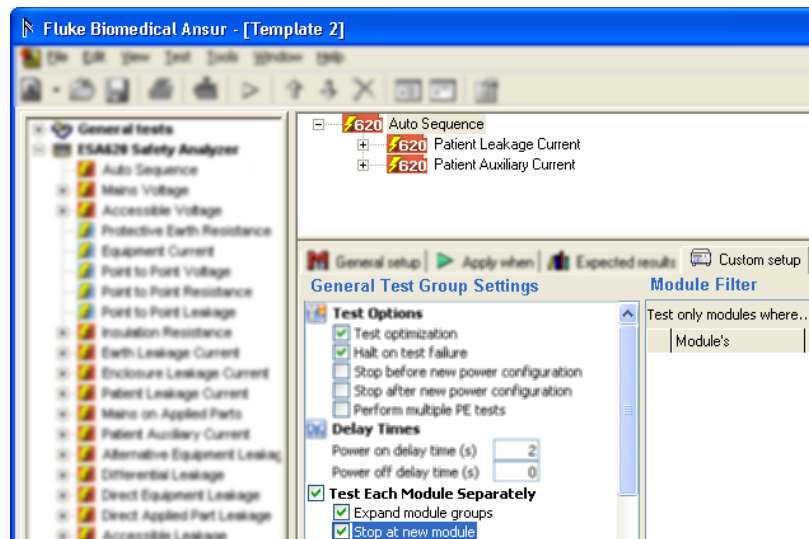

Figure 4-7. Configuring Module Testing
3. Click the Test Each Module Separately, Expand module groups, and Stop at new module checkboxes in the General Test Group Settings area as shown in Figure 4-7.